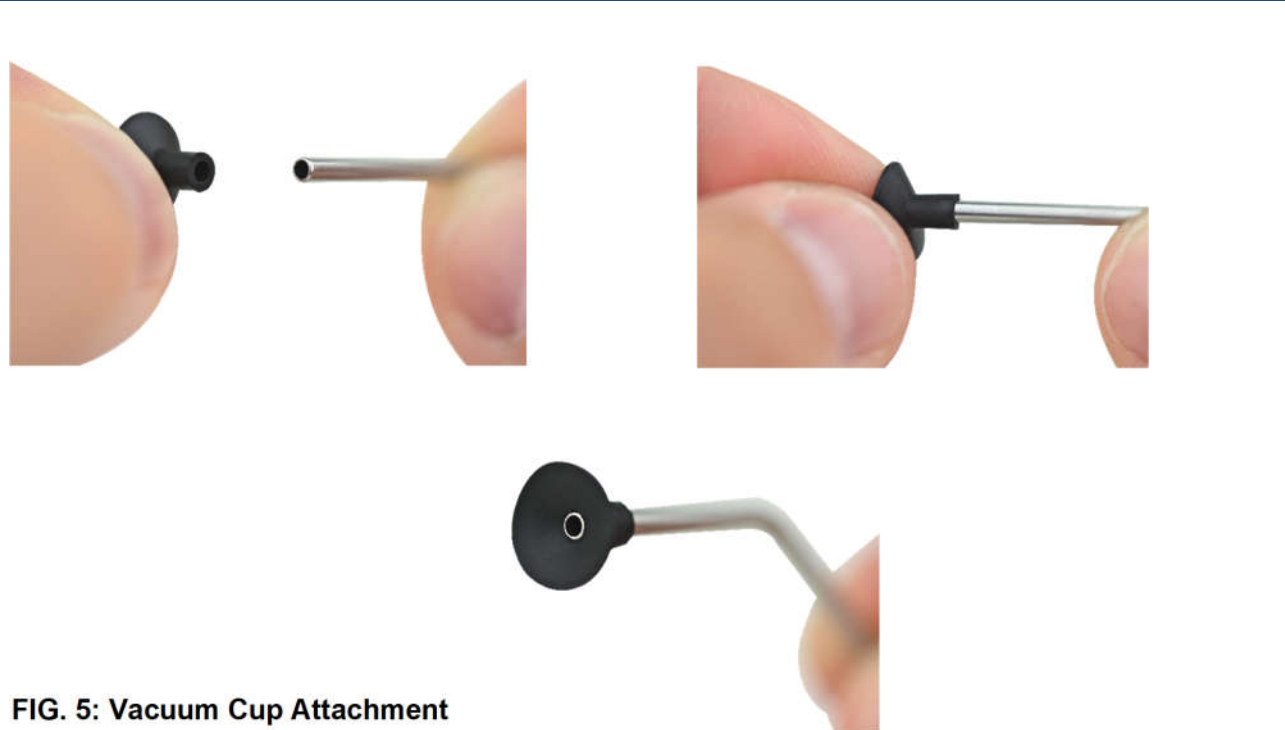

FIG. 5: Vacuum Cup Attachment
3.	<p>Gently push the stem of the vacuum cup onto the pickup tip. See FIG. 5.</p> <p style="color: red;">Ensure that the pickup tip does not protrude into the “cup” area of the vacuum cup, as this may result in damaging the component that is to be picked up.</p> <p style="color: red;">A successful setup will be confirmed by a tight fit that does not deform the surface of the vacuum cup.</p>